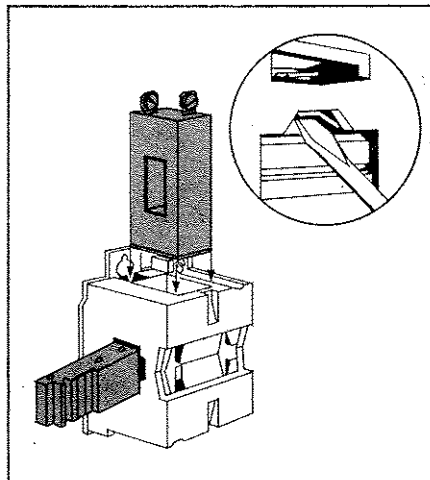

Figure 1.
4. Insert a screwdriver blade between magnet and magnet retaining clip. Twist blade to force retaining clip away from magnet. Push down on screwdriver, dislodging magnet; then applying firm pressure with screwdriver, push magnet through coil to position shown in Figure 1.